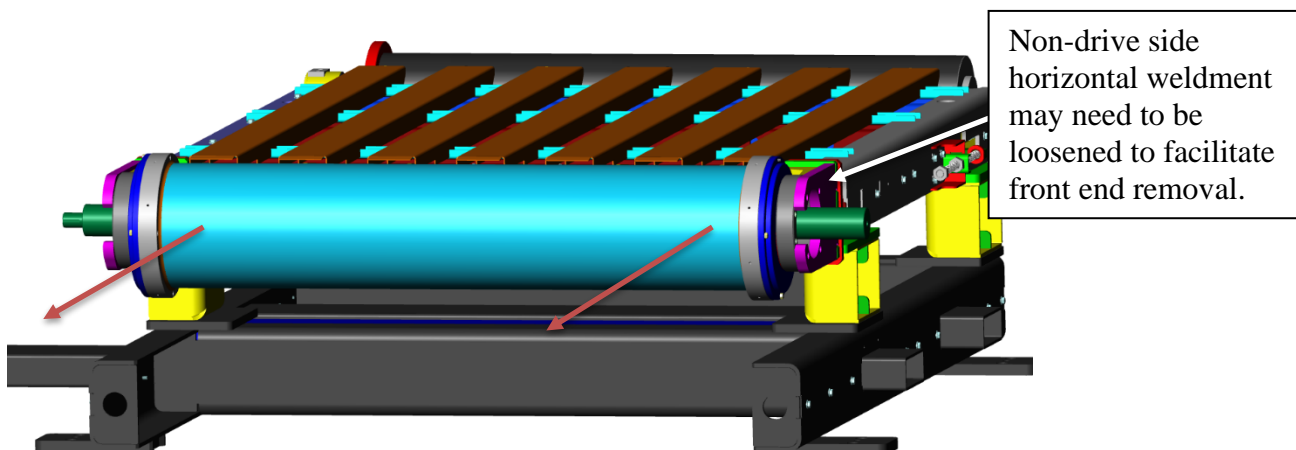

Figure 14
10. The rotor / shell front end assembly can now be removed from the horizontal mount weldments. The non-drive side vertical mount weldment may need to be loosened to facilitate front end assembly removal. See **Figure 14**.